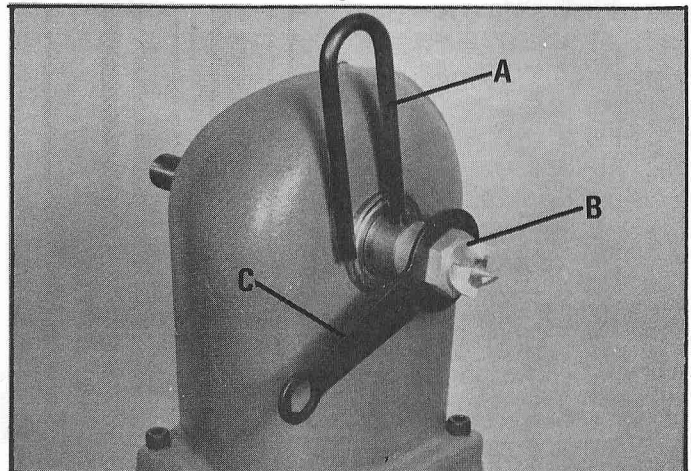

Fig. 21
2. Insert one end of support tool (A) Fig. 21, into hole in spindle, as shown, and remove drive center (B) using wrench (C).